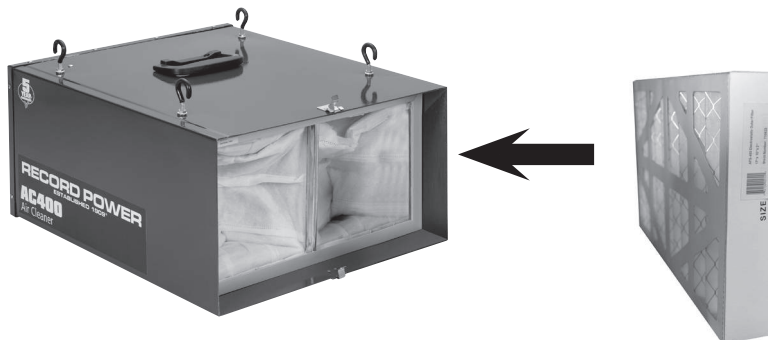

Fig 9.3
- The filters should be replaced and / or cleaned depending on the amount of usage and the environment of your workshop. Clogged filters will reduce the amount of air circulation. The correct way to fit the outer filter is with the wire mesh facing inwards, (**Fig 9.3**).